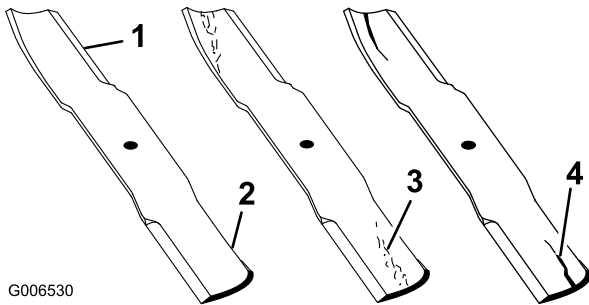

Figure 45
1. Inspect the cutting edges (Figure 45). If the edges are not sharp or have nicks, remove and sharpen the blades. Refer to *Sharpening the Blades*.
2. Inspect the blades, especially the curved area (Figure 45). If you notice any damage, wear, or a slot forming in this area, immediately install a new blade.